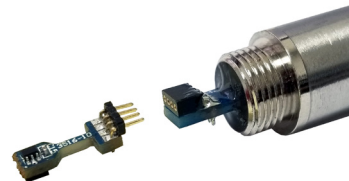

Figure 2 - Remove the sensor (pulling straight out) from the connector.
2. Using your thumb and index finger, gently pull (straight back) the sensor out of the connector. (See Figure 2)